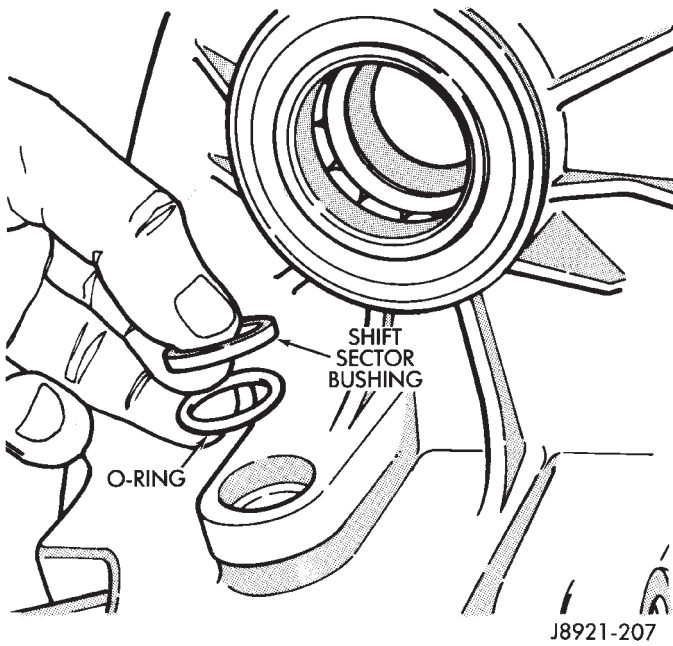
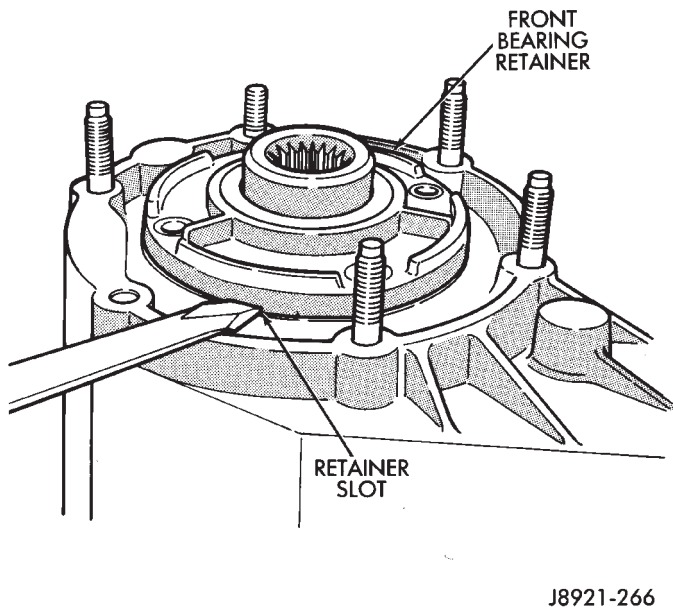

Fig. 27 Removing Sector Bushing And O-Ring
Fig. 28 Removing Front Bearing Retainer
- (40) Remove shift sector bushing and O-ring (Fig. 27).
- (41) Remove front bearing retainer bolts.
- (42) Remove front bearing retainer. Carefully pry retainer loose with screwdriver (Fig. 28). Position screwdriver in slots cast into retainer.